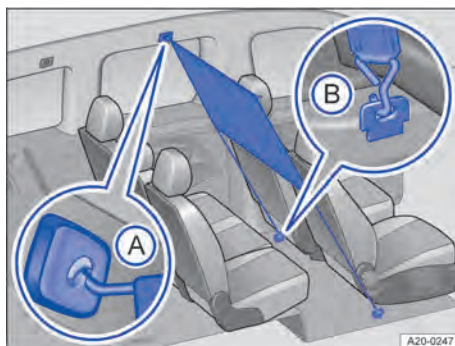
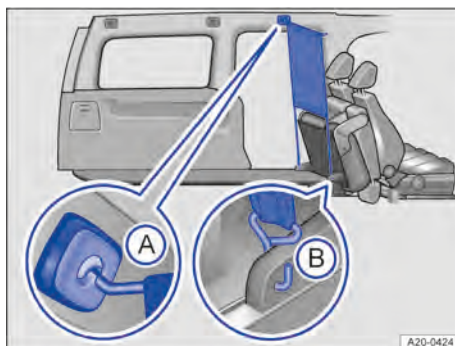

Fig. 131 Behind the first row of seats: Fitted net partition.
Fig. 132 Behind the folded down second seat row: Fitted net partition.
2. Hook the net partition into the *front left* holder → Fig. 131 A or → Fig. 132 A in the roof. Ensure that the transverse rod is pulled up over the upper position so that it latches securely in the slots.
- Hook the net partition into the anchor point → Fig. 131 Ⓐ or → Fig. 132 Ⓑ.